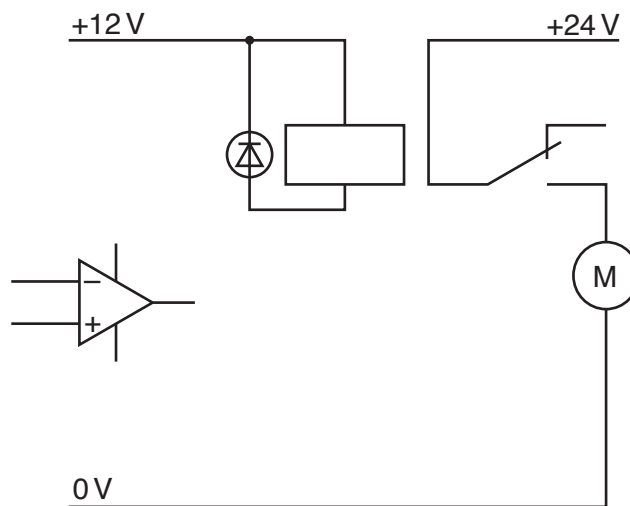

Fig. 21
- (v) The high output of the CA3140 operational amplifier is +10 V with a maximum current of 10 mA, which is not enough to operate the motor. Complete Fig. 21 to show a transistor circuit that will operate the relay to switch the motor on and off.